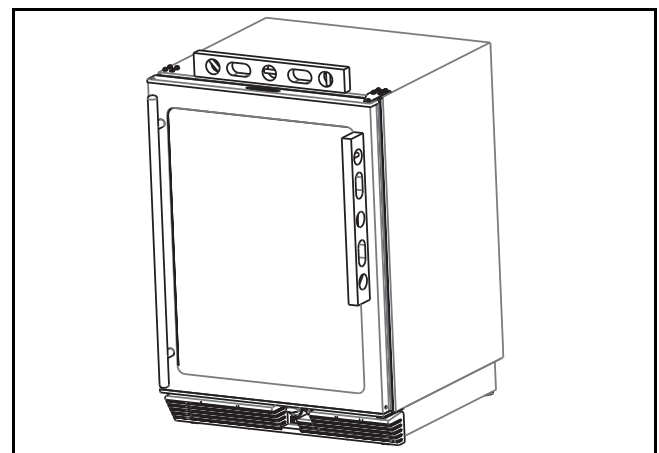

Figure 9
1. Use a level to check the levelness of the unit from front to back and from side to side. Level should be placed along top edge and side edge as shown (**Figure 9**).